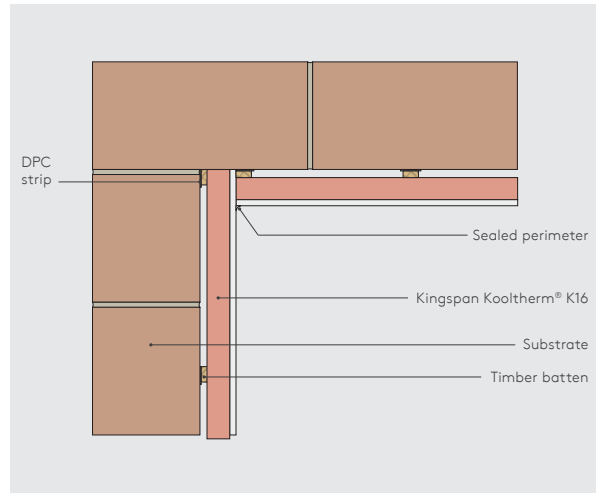

Figure 6 - Internal corner detail
- For external corners (including reveals), the lining should run past the corner and the insulating backing of Kingspan Kooltherm® K16 should be cut back to create a junction (see Figures 6 & 8). Sheets should be cut and rebated to allow a plasterboard / plasterboard joint at the angle (see Figures 6 & 7).
- Ensure sheets are lightly butted and air gaps minimised to reduce the risk of cold bridging (see Figures 6 & 8). Any air gaps should be sealed with flexible sealant or equivalent, or a combination of flexible polyurethane foam and flexible sealant or equivalent.